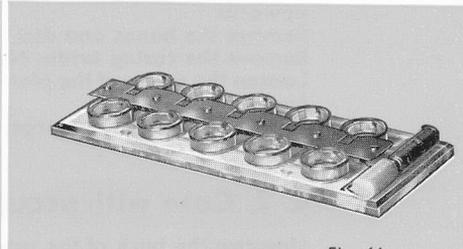

Fig. 11
- Feed plate with 10 plain feed rings, for repairing batches of movements, fig. 11.